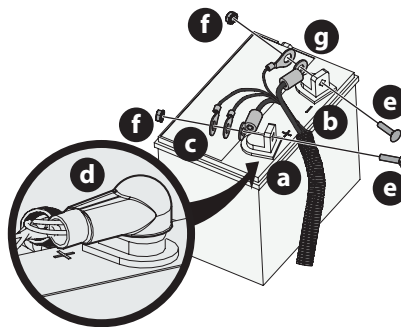

Figure 21
NOTE: The positive battery terminal is marked POS. (+) (a). The negative battery terminal is marked NEG. (-) (b) (Figure 21).
NOTE: If the positive cable grouping (c) is already attached, skip ahead to Step 6 (Figure 21).
3. Slide the red boot (d), if present, back along the positive cable grouping (Figure 21).
4. Attach the positive cable grouping (c) and positive cable for the 12V outlet (if equipped) to the positive battery terminal (a) with the bolt (e) and nut (f) (Figure 21).
5. Position the red boot (d) over the positive battery terminal (a) to insulate it and help protect it from corrosion (Figure 21).
6. Attach the negative cable grouping (g) and negative cable for the 12V outlet (if equipped) to the negative battery terminal (b) with the bolt (e) and nut (f) (Figure 21).